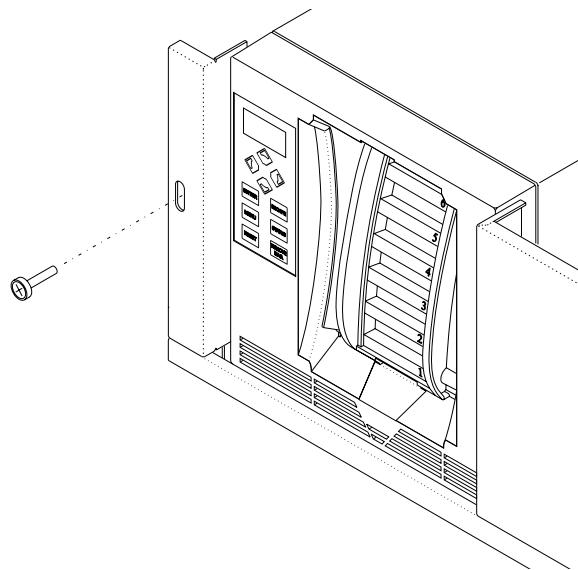

Figure 7-7 Removing the screw securing the autoloader to the rack
1. Remove the screw securing the front of the autoloader to the rack (see Figure 7-7).